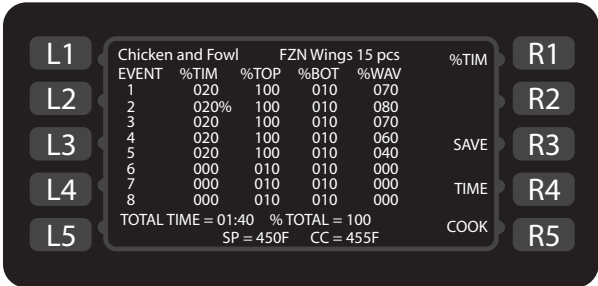

Figure 30: Recipe Edit Screen
5. From the “Recipe Edit” screen (Figure 30), edit the food group name (top of the screen):
1. From the Recipe Edit screen (Figure 30), press the Down key to move the cursor to the desired “Event Setting” field.
NOTE: To help make navigation easier, the currently-selected field will be displayed in the top-right corner of the display. In Figure 30, the cursor is in the “% Time” column.